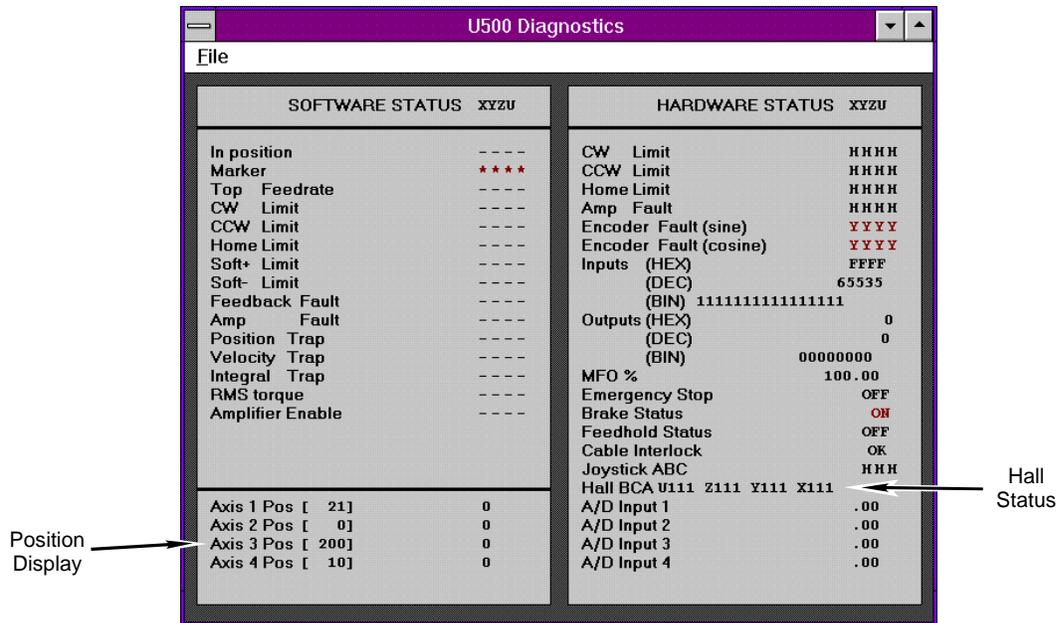

Figure E-1. U500 Diagnostic Window
The feedback device's position display should also be increasing (See diagnostic window in Figure E-1).
- Check the Hall signals. The Hall signals can be viewed in the U500 diagnostic window. See Figure E-1. As the motor is moved in the positive direction, the Hall signals should cycle through the proper states. Swap Hall signals until the proper sequence is obtained. See Table E-1. Aerotech linear and rotary AC brushless motors require Hall effect feedback except for rotary AC brushless motors with resolvers. Resolvers provide absolute position information for one revolution of the motor.